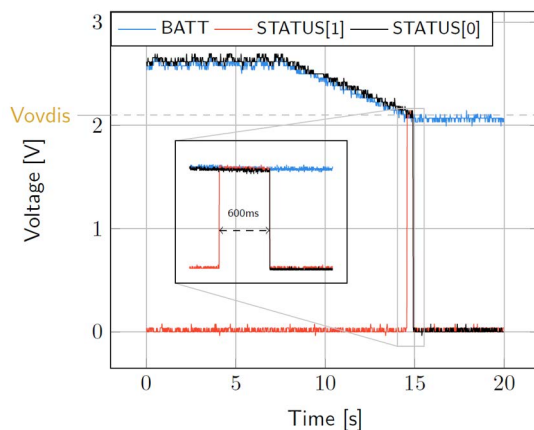

Figure 4: LDOs disabled around 600 ms after **BATT** reaches **Vovdis**
- BATT**: Voltage decreases as the system consumes the power accumulated in the storage element. The voltage remains stable after crossing **Vovdis** (see Figure 4).
- STATUS[0]**: De-asserted when the LDOs are no longer available as the storage element is running out of energy. This happens 600 ms after **STATUS[1]** assertion (see Figure 4).
- STATUS[1]**: Asserted for 600ms when the storage element voltage (**BATT**) falls below **Vovdis** (see Figure 4).